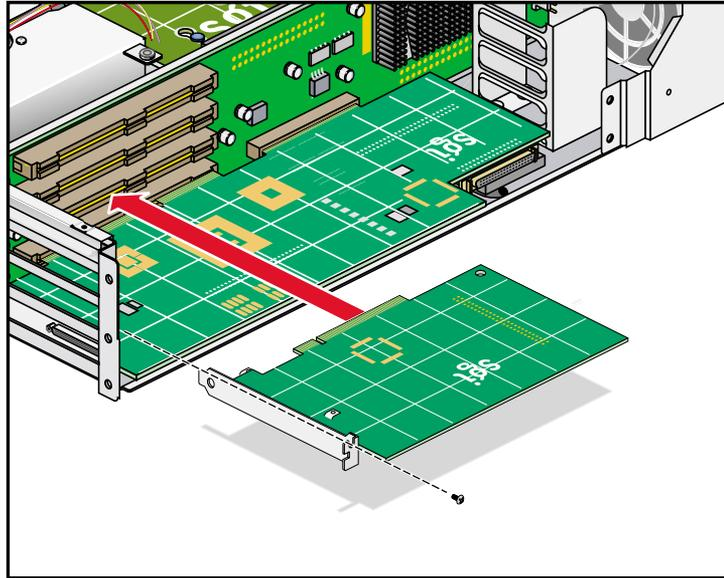

Figure 7-7 Installing the Card and Retaining Screw
11. Insert the card into the slot by pushing the card into the connector until it is properly seated and install the retaining screw, as shown in Figure 7-7. If you have installed the card into one of the upper two slots, proceed to step 13.